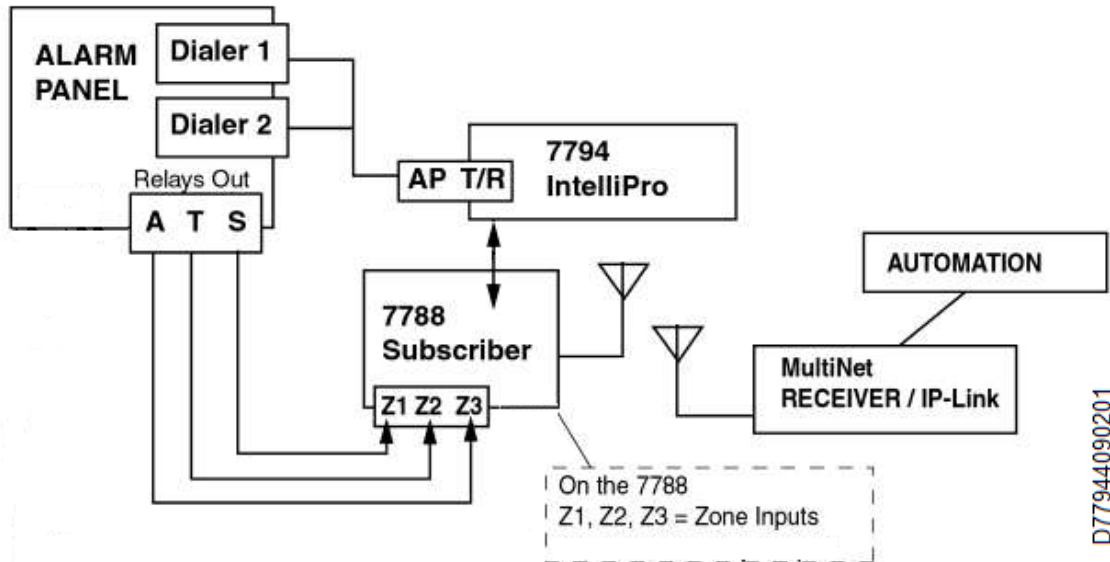

Figure 6B.
FACP (Fire Alarm Control Panel) with both dialers connected to the 7794 (AP TIP and AP RING) as shown in Figure 6B.
- 2) Wire the Zones of the FACP into the 7788 as depicted above in Figure 6B.